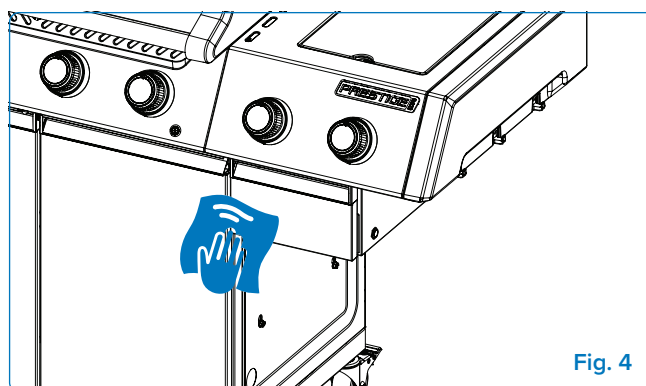

Fig. 4
7. **Wipe Down the Smoker Box** – Clean inside and outside surfaces with a 50/50 mix of warm water and apple cider vinegar using a sponge. This cuts through creosote. Use a metal brush or abrasive pad for stubborn buildup. Avoid excess moisture near electrical parts (**Fig. 4**).